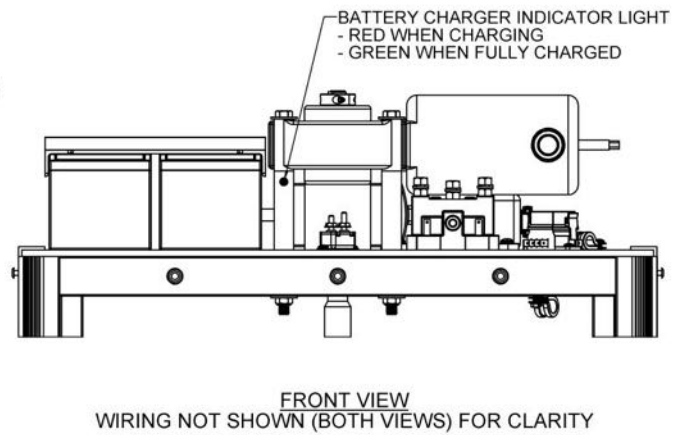
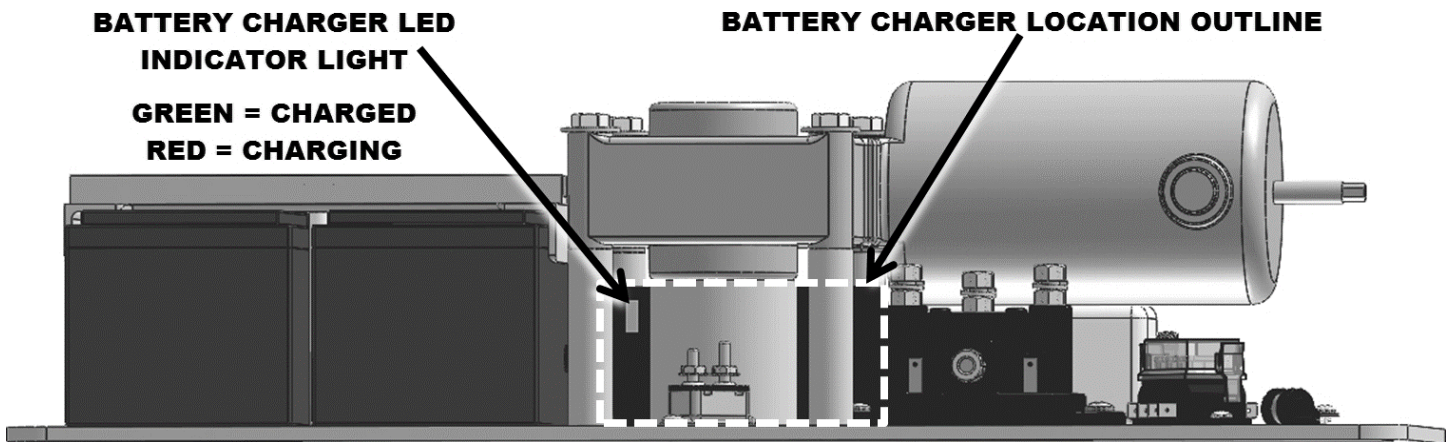

FIG. 4.15
FIG. 4.15A
33. Plug VPL into AC power, verify charger LED is illuminated. (FIG. 4.15 and FIG. 4.15A.)